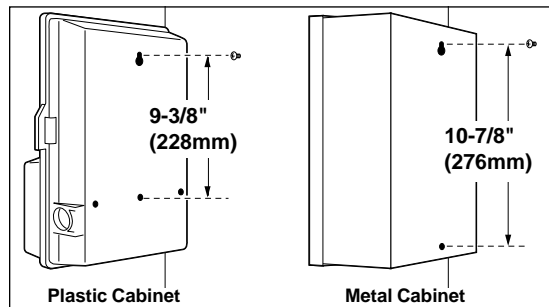

**Figure 2** - Removing screw hole and wiring plugs.
Using a small screwdriver or punch, carefully remove lower mounting screw hole plug(s) **(A)** as needed. See **Figure 2**.
4. Remove the 1/2" (13mm) bottom or back power wiring access plug **(B)** and the 1" (25mm) bottom or back field wiring access plug **(C)**. Remove the side access plug **(D)** if planning to install the Toro Rain Switch and/or ProgramLink™ cable options. See **Figure 2**.